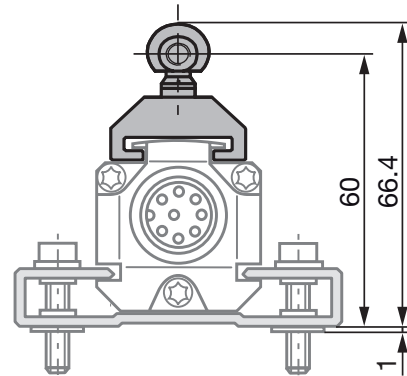
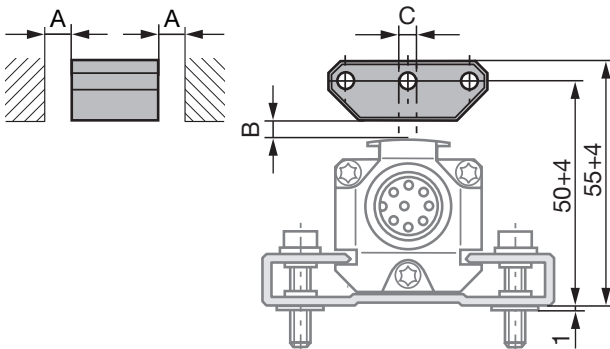

Fig. 4-1: Dimensions and distances with BTL5-F-2814-1S magnet
Fig. 4-4: Dimensions and distances with BTL5-P-3800-2 magnet
i The micropulse transducer in profile housing is suitable both for floating, i.e. non-contacting magnets (see Figures 4-4 to 4-8) and for captive magnets (see Figures 4-1 to 4-3).
- Ensure that the distance A between parts made of magnetizable material and the magnet is at least 10 mm (see Figures 4-4 to 4-8).
- Maintain the following values for distance B between the magnet and transducer and for center offset C (see Figures 4-4 to 4-8):